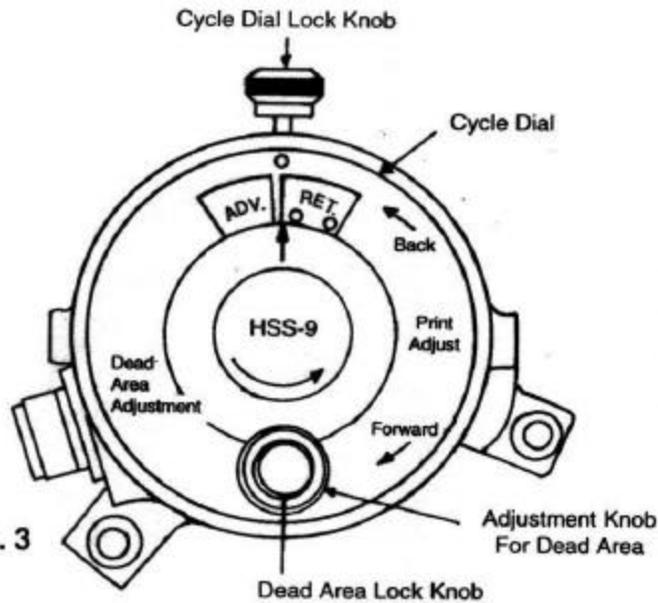

FIG. 3
9. Loosen the top lock knob on the Selector Switch and rotate the outer cycle dial of the Selector Switch until the arrow on the indicator dial points to the "0" between the advance and retard areas. Retighten to the lock knob. (See Fig. 3) pp.18